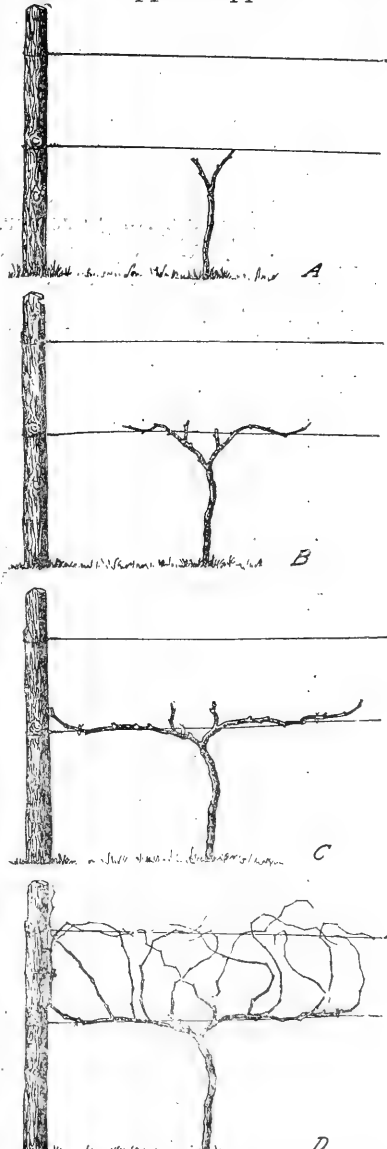

Fig. 122. A pruned and an unpruned vine at different ages.
1. The high-renewal system. Fig. 122.
d. Pruning. Fig. 122.
1. The end of the second year. (A).
- a. See Figure 122.